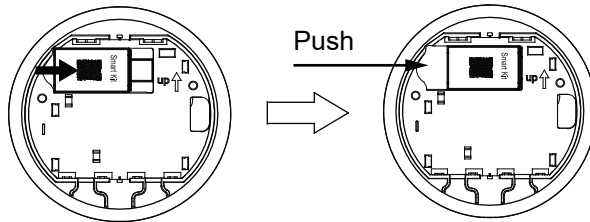

Figure 15.
2. Insert Smart USB into the main PCB of the Smart Port. Refer to Figure 15.